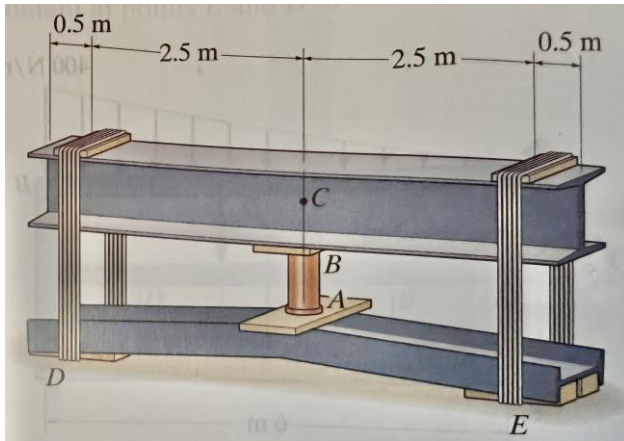
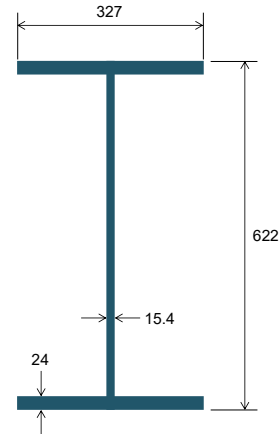

Figure 1. Diagram of the beam-straightening setup.
Figure 2. Cross-section dimensions of each steel beam.
The setup shown below in Figure 1 (Hibbeler, 2007) is used to straighten the bent beam DAE via a stiff hydraulic jack (AB). For this analysis, suppose we take each beam to have the *simplified* cross-section specified in Figure 2. In Figure 2, the top flange of the beam has the same thickness as the bottom flange (24 mm).